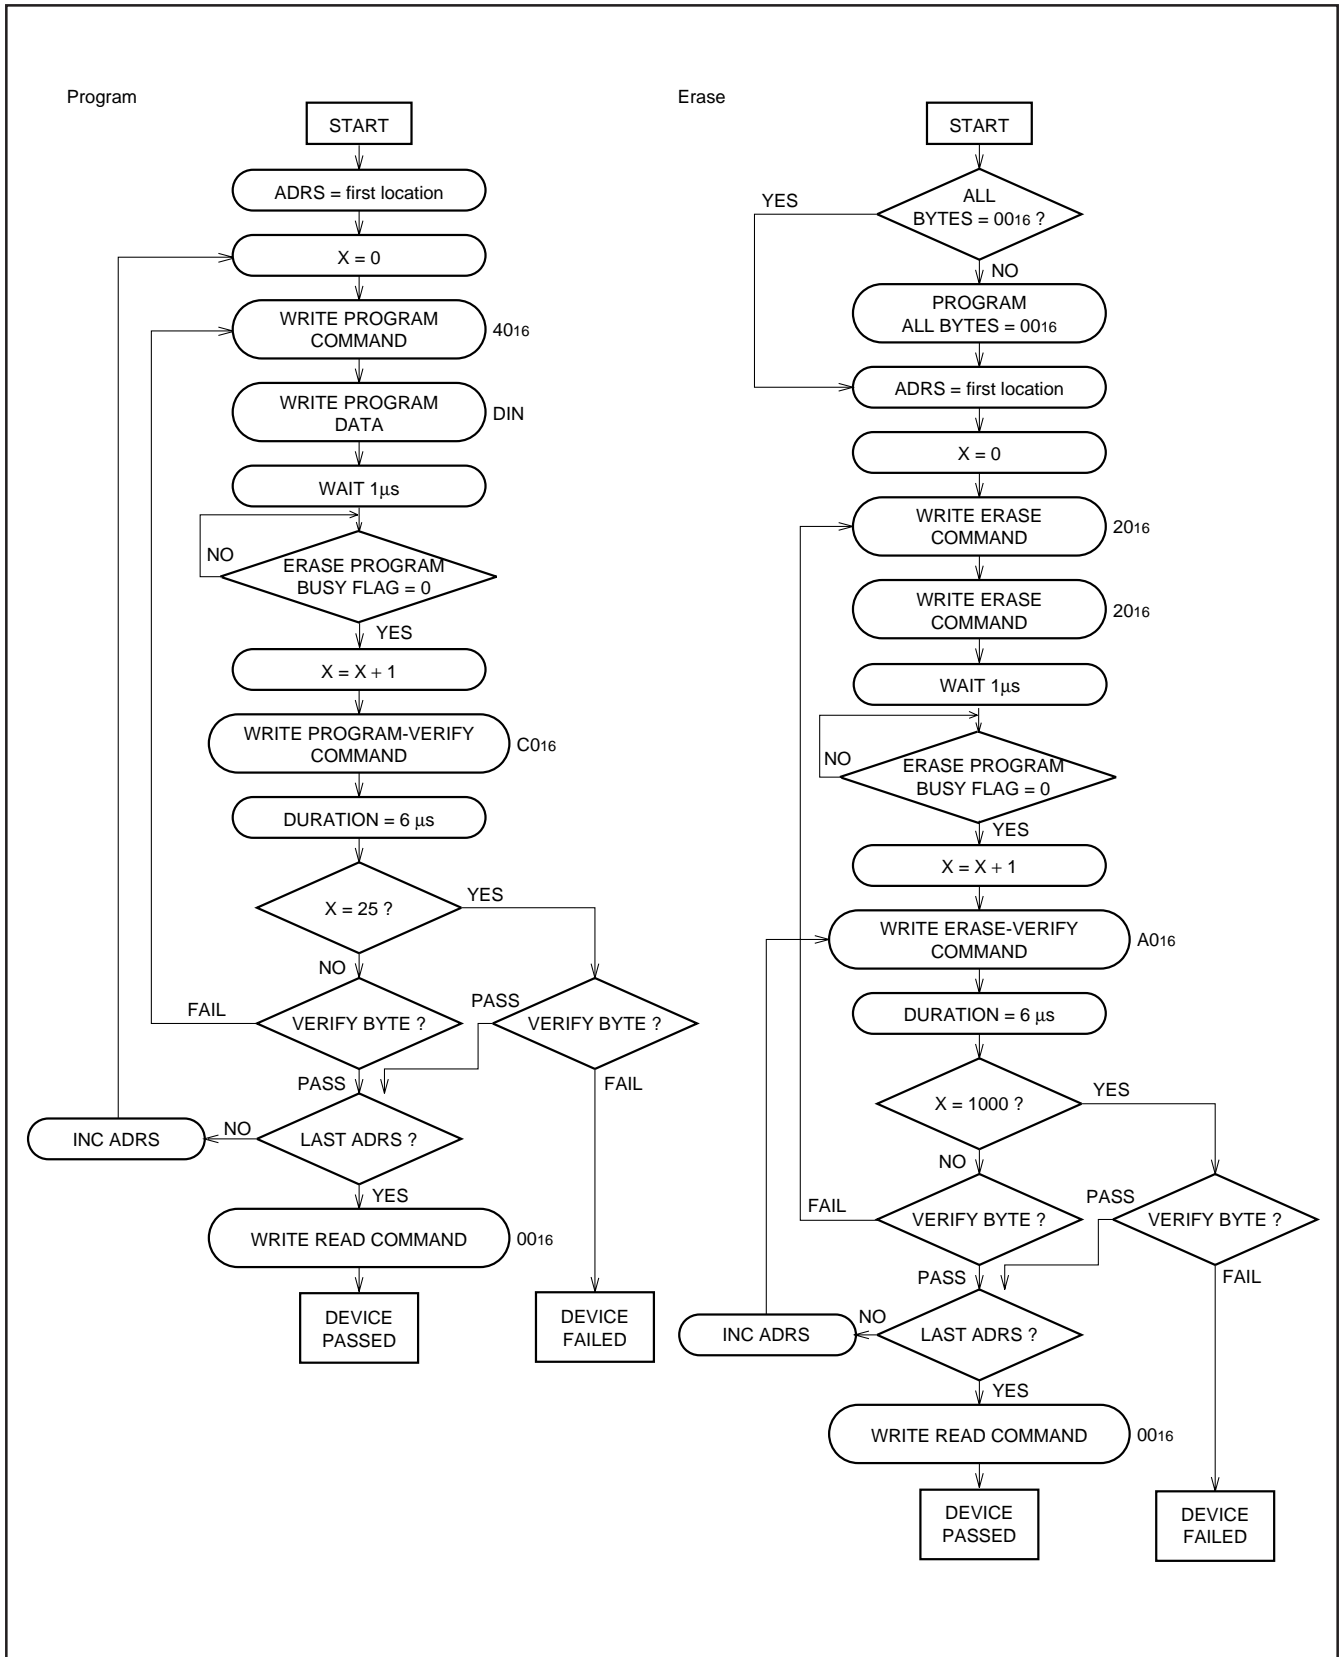

Fig. 82 Flowchart of program/erase operation at CPU reprogramming mode
**Note:** A programming operation is not completed by executing the program command once. Always be sure to execute a program verify command after executing the program command. When the failure is found in this verification, the user must repeatedly execute the program command until the pass. Refer to Figure 82 for the flow chart of the programming.
**Note:** The erasing operation is not completed by executing the erase command once. Always be sure to execute an erase verify command after executing the erase command. When the failure is found in this verification, the user must repeatedly execute the erase command until the pass. Refer to Figure 82 for the erasing flowchart.